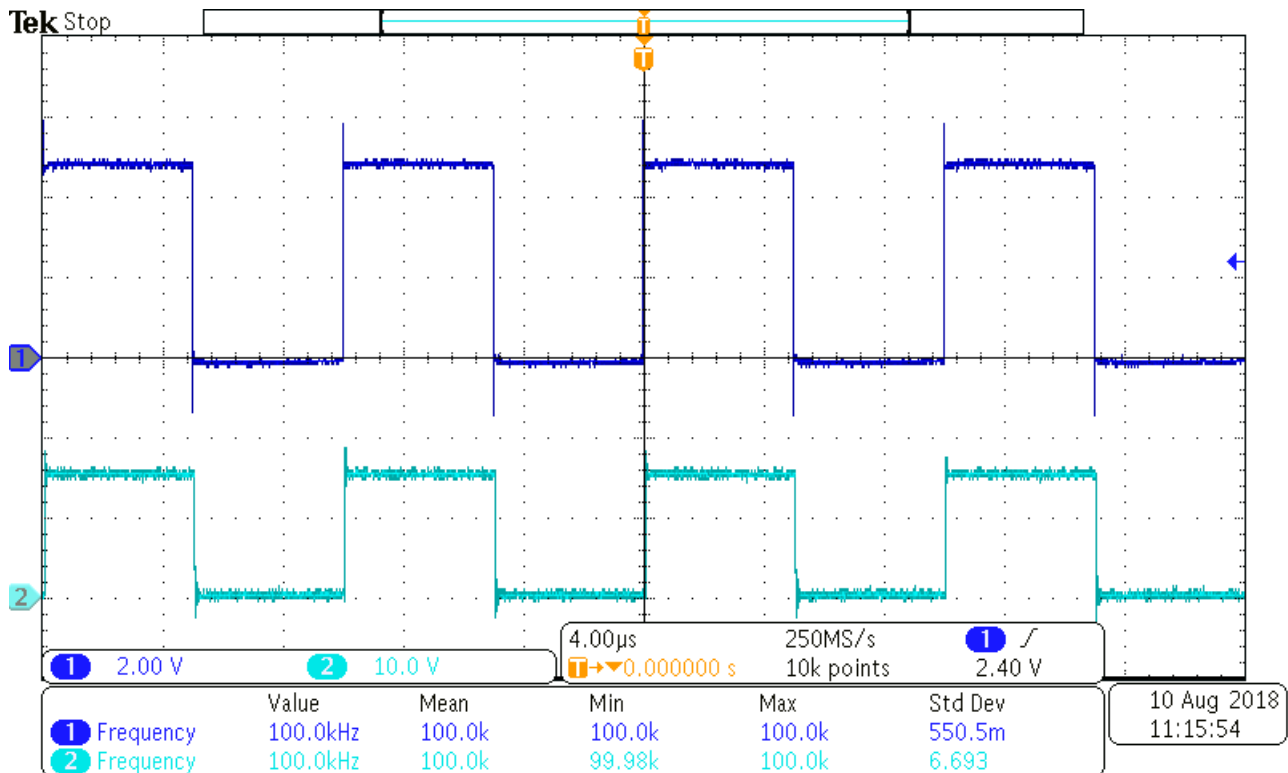

Figure 3. Example Input and Output Waveforms (Ch1 is PWM Input, Ch2 is Output)
1. Before proceeding to the power up procedure, make sure that Section 4.3.6 is implemented for setting up all the equipment. Figure 3 can be used as reference.
1. Stable pulse output on the channel-A and channel-B in the oscilloscope. See Figure 3.